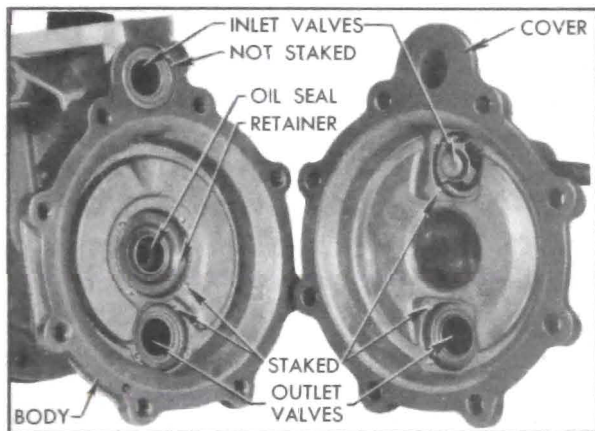

Figure 3-16—Vacuum Valves and Pull Rod Seal
4. Cut off the burrs produced by staking, then remove all valves from cover and body by prying out with a screwdriver or hook-shaped tool. The valve adjacent to body mounting flange is not staked in place. See figure 3-16.
3. Inspect the rubber pull rod oil seals in pump body. See figure 3-16. If damaged or of doubtful condition, pry out the metal retainer and discard the rubber seal. Place new seal in body with concave side outward, press metal retainer down firmly into body with the flat end of a rod ⅞" in diameter, then stake body metal in four places around the retainer.
2. Place a new valve gasket in each valve seat in vacuum cover. Place one valve in seat nearest inlet port with the spring cage side facing up. Place another valve in the outlet valve seat with the spring cage side down. Press valves down firmly against gaskets, then stake cover metal in four places around each valve. See figure 3-16.
3. Install gasket and valve, with spring cage side down, in seat farthest from mounting flange in pump body, then stake in place. See figure 3-16. Do not install the inlet valve adjacent to mounting flange at this time.
6. Depress rocker arm and insert hooked end of Diaphragm Flexing Tool No. PT-8 (AC) between rocker arm and the stop boss in body, then release rocker arm. The vacuum diaphragm will then be in a flat or level position.